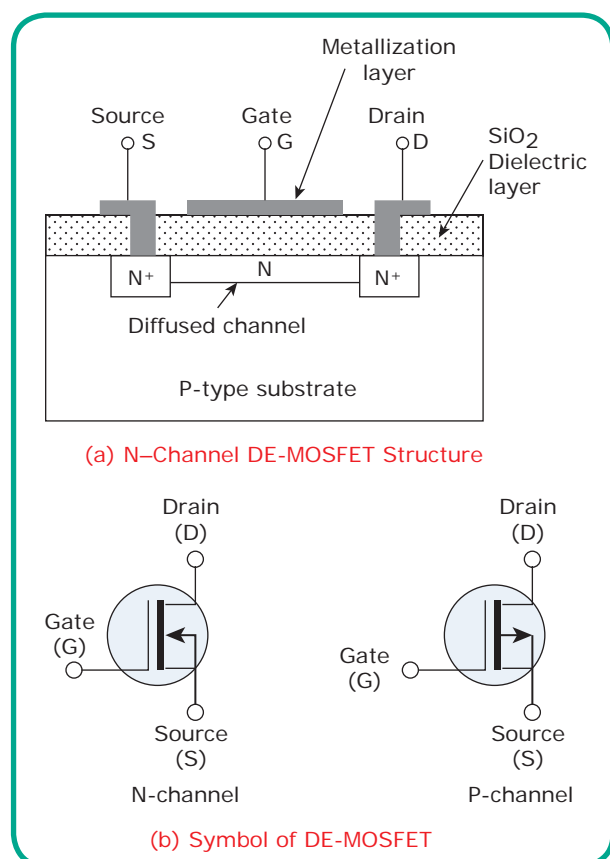

Figure 6.13 Construction and symbol of N-Channel and p-Channel Depletion MOSFET
Figure 6.13 shows the construction and symbol of N-channel depletion MOSFET. It consists of a lightly doped p-type semiconductor substrate. In the substrate, two highly doped N+ regions are diffused. One region is source (S) and other is drain (D). A lightly doped N-channel is formed between source and drain by diffusion. A thin layer of SiO2 is grown over its surface. Then, an aluminium layer is formed over SiO2, which acts as gate (G). SiO2 acts as insulator. These setup acts as a parallel plate capacitor.